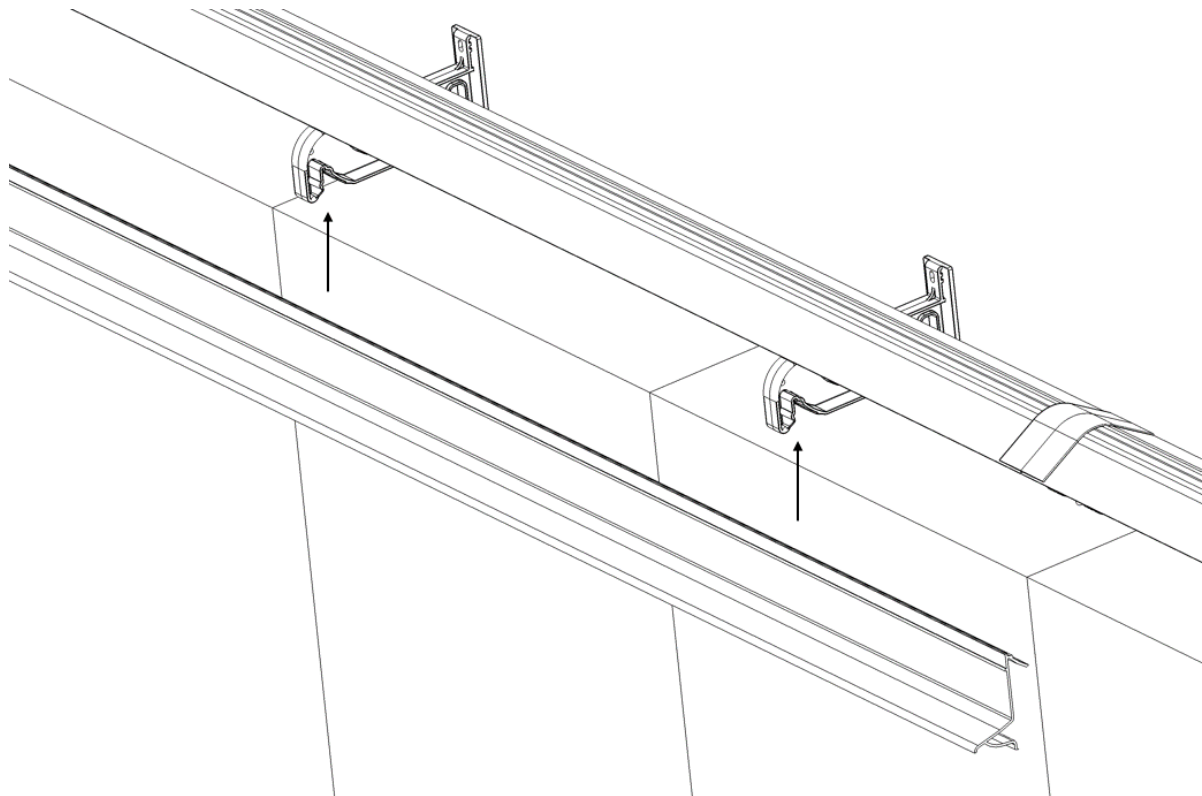

Figure 31
Insert the Pad Guide [ref. 9] in the Top Brackets, on the external side of the wall to keep the Pads in place as Figure 31.